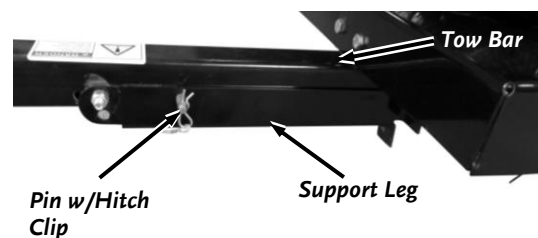

Figure 23
3. Rotate the Support Leg to the up (transport) position, align the holes in the Tow Bar and Leg, reinstall the Pin and secure with the Hitch Clip (**Figure 23**).